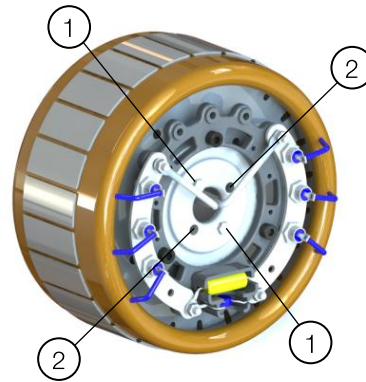

Figure 14.22: Fastening and holes to withdraw the exciter rotor
4. Remove the exciter rotor. Use the fixing screws to withdraw the exciter rotor, through the holes indicated in Figure 14.22, and withdraw the current exciter rotor bushing.
Key of Figure 14.22: